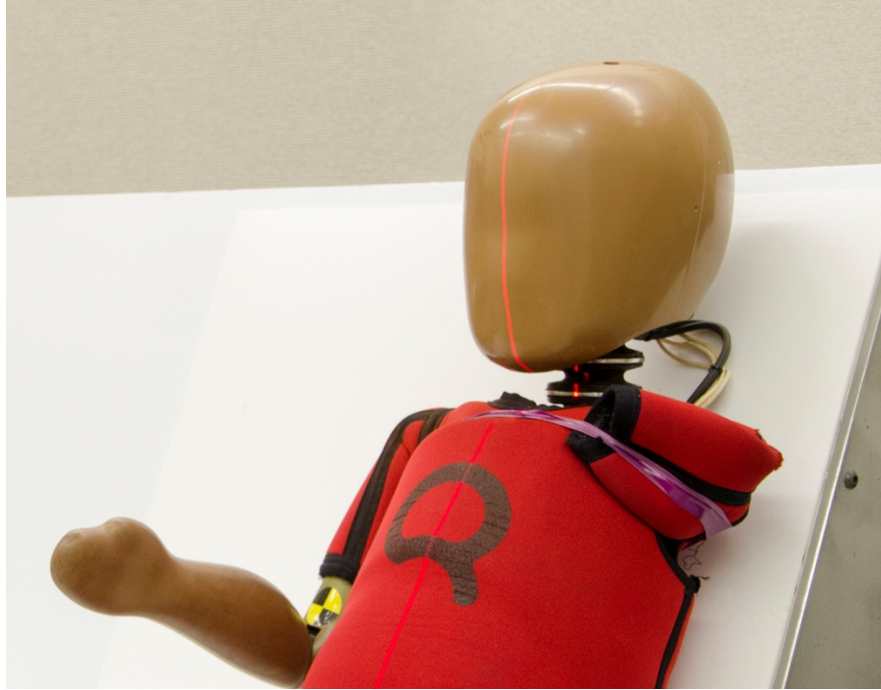

Figure 104. Remove the arm and tape the sleeve on the impact side
- Ensure that the instrumentation umbilical exits the dummy from the non-impact side of the pelvis. In addition, fastening the hook and loop closure which connects the thoracic part of the jacket to the pelvis portion with a small overlap allows for easier adjustment of the jacket (Figure 104).